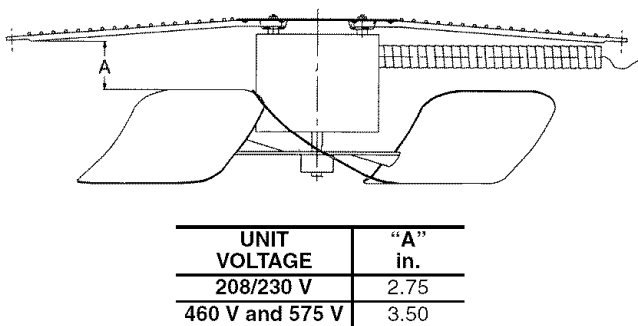

Fig. 46 — Outdoor Fan Adjustment
Outdoor Fan Adjustment (Fig. 46)
3. Adjust the fan height as shown in Fig. 46.